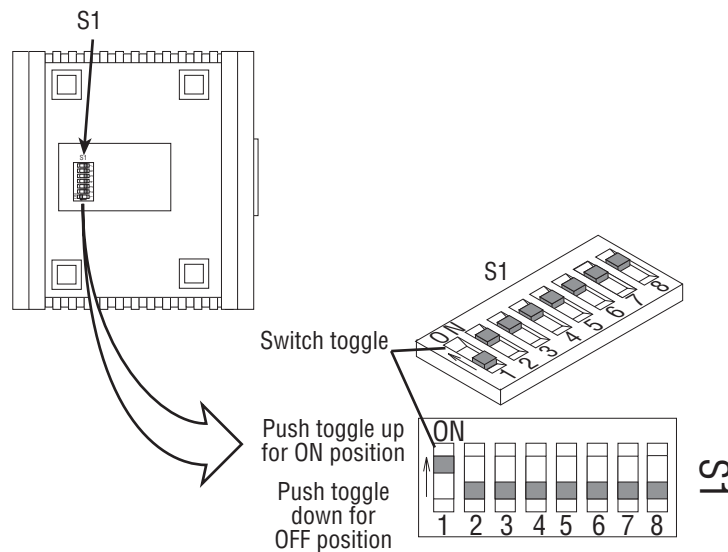

Figure 6. DIP switch orientation
2. The DIP switches are externally accessible from the underside of the LB200A-R4. Figure 6 shows the orientation of the DIP switches in the On and Off positions.